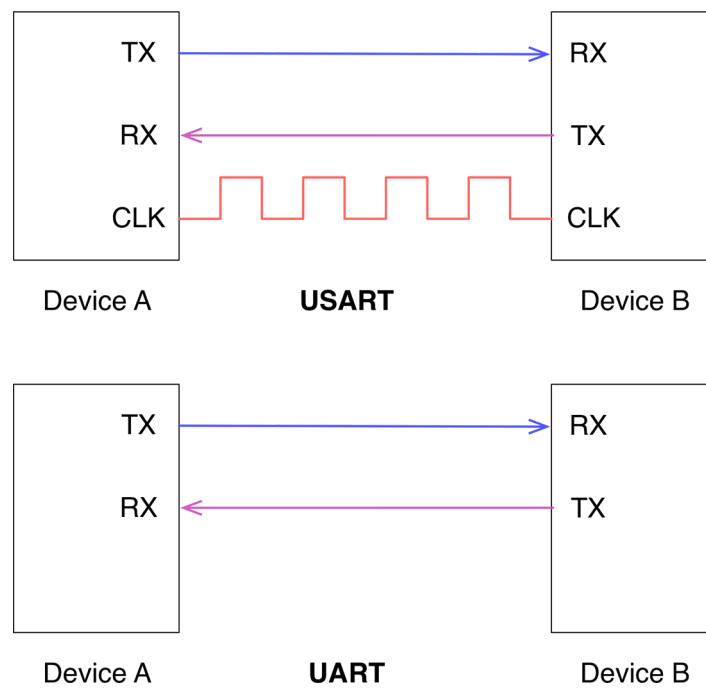

Figure 8.3: The signaling difference between a USART and a UART
A *Universal Synchronous Receiver/Transmitter* (USART) interface is a device capable of transmitting data words serially using two I/Os — one acting as the transmitter (TX) and one as the receiver (RX) — plus an additional I/O as a clock line. In contrast, a *Universal Asynchronous Receiver/Transmitter* (UART) requires only two I/Os, TX and RX (see **Figure 8.3**). Conventionally, we refer to the first interface as **USART** and to the second as **UART**.